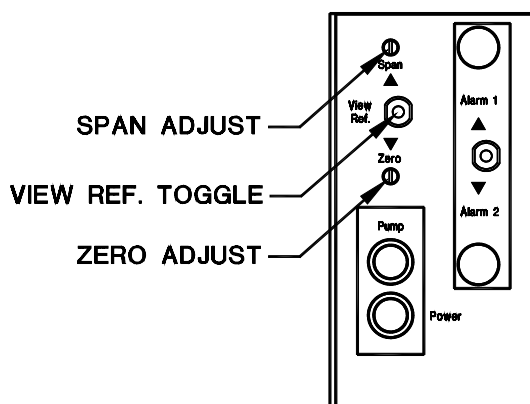

Figure 10: Calibration Controls
1. Locate the View Ref. toggle switch. See Figure 10